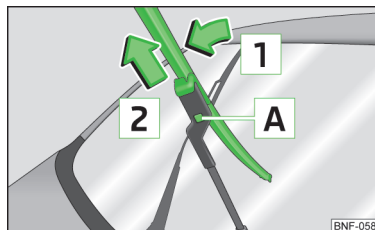

Fig. 122
- Raise the windscreen wiper arm from the rear window and slightly tilt the windscreen wiper blade towards the wiper arm, arrow **1** » Fig. 122.